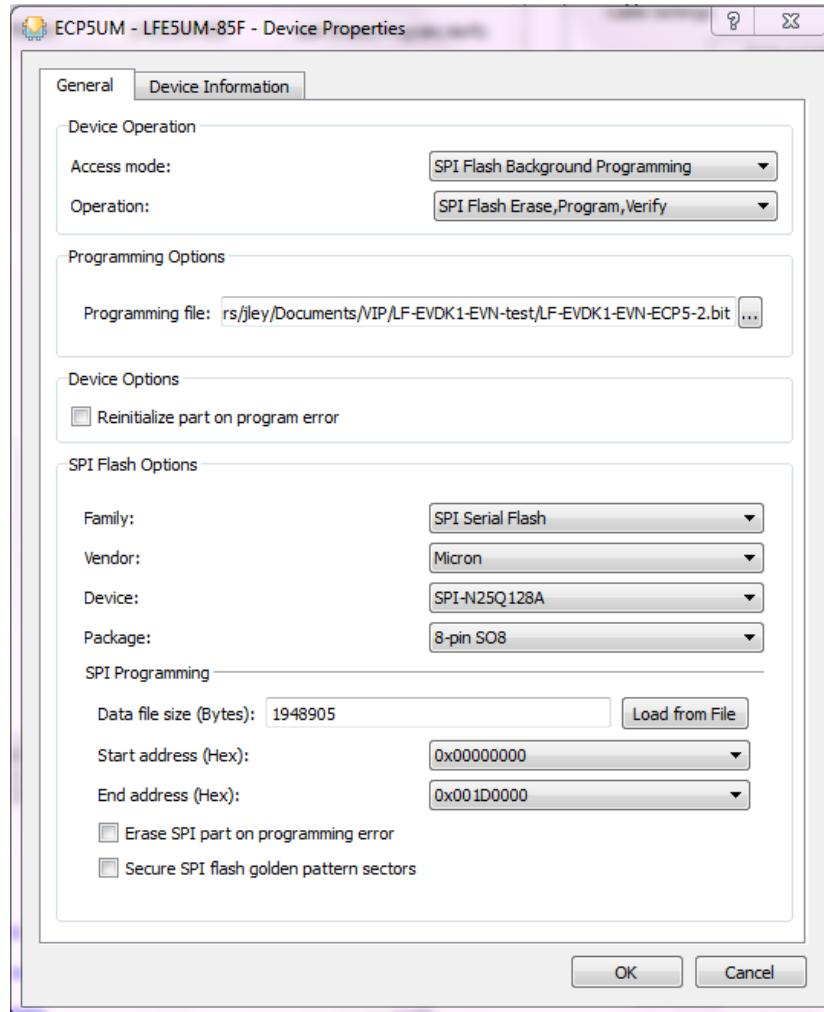

Figure 7.3. Device Properties
2. Make selections as shown in Figure 7.3. Note that in the “Programming file” field, select the file “hdmi2hdmi.bit”. Click OK.